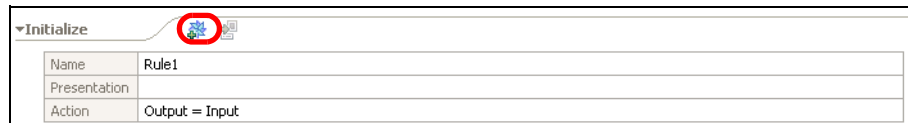

Figure 16-7 Decision table: Initialization rule
- ▶ Add an action rule in the Initialize section (Figure 16-7) and set the action to: